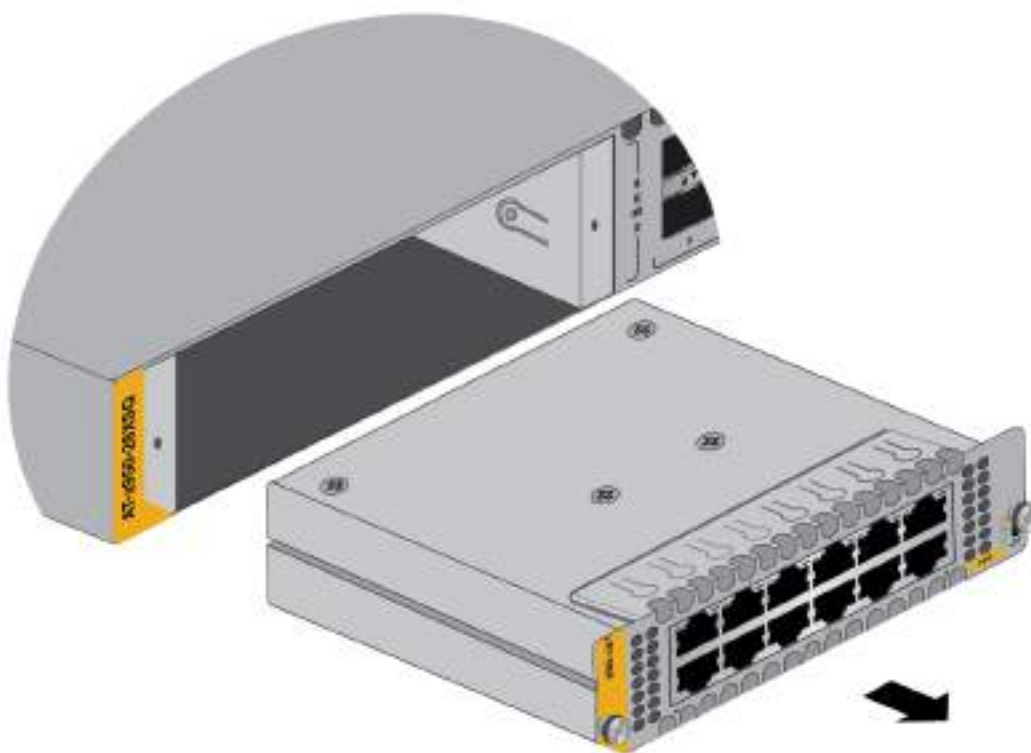

Figure 124. Sliding an Ethernet Line Card from the Switch
6. Carefully slide the card from the switch. Refer to Figure 124.